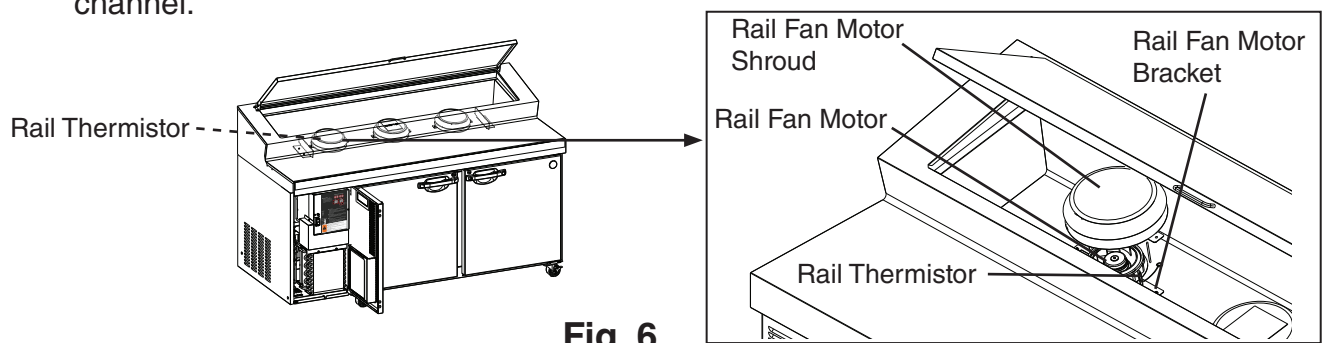

Fig. 6
- 3) Remove the left side rail fan motor shroud. See Fig. 6.